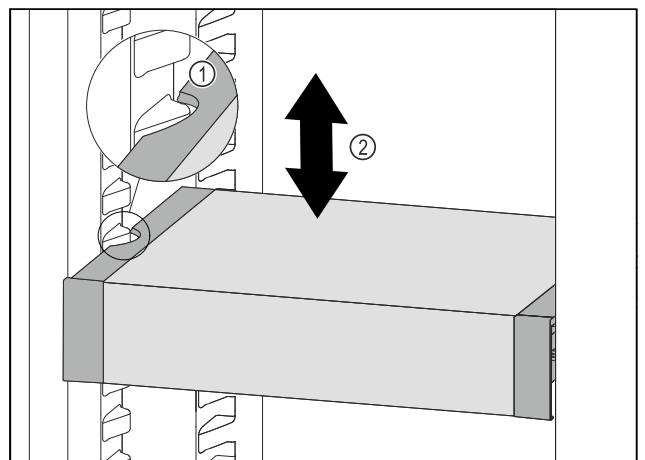

Fig. 200
- ▶ Pull VarioSafe forwards until the recesses in the side of the VarioSafe are at the level of the support rib in the refrigerator compartment. Fig. 200 (1)
- ▶ Move VarioSafe up or down in the refrigerator compartment until the desired height is reached. Fig. 200 (2)